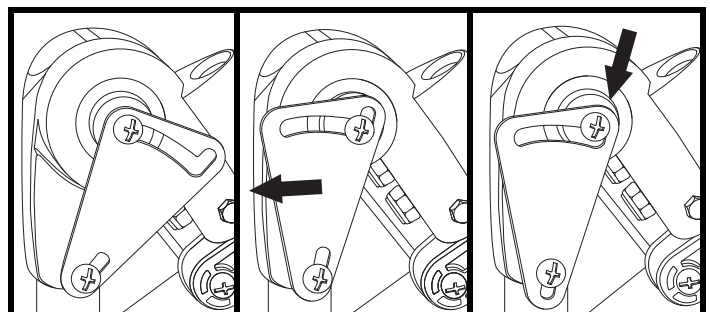

Figure 49. ACTIVE Leg Rests
1. If leg motion is desired, slide the triangular plate (near the child's knee) toward the front of the wheelchair to depress the button on the triangular plate. Lock the triangular plate by pressing down on its top. Repeat on other side. See figure 49.